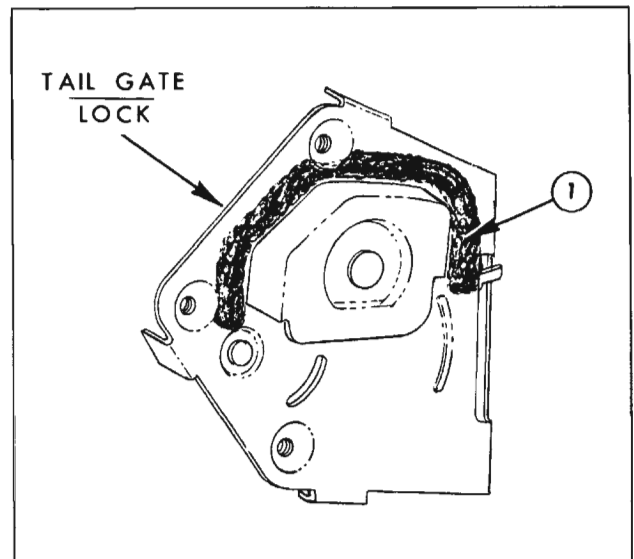

Fig. 16-200 Tail Gate Lock Sealing
5. To install tail gate lock assembly, reverse removal procedure. Prior to installing lock assembly into tail gate, apply a bead of body caulking compound to lock frame along joint of lock bolt housing, as indicated at "1". (Fig. 16-200)